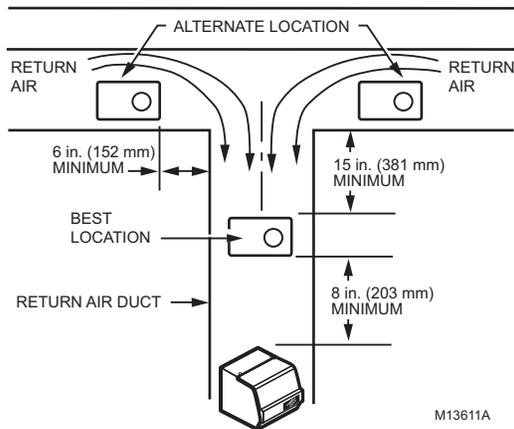

Fig. 3. Selecting duct location for Humidistat and Humidifier.
- For return duct mounting, the Humidistat must be mounted upstream from the Humidifier and Bypass Collar so it is properly sensing the relative humidity of the house. See Fig. 3.